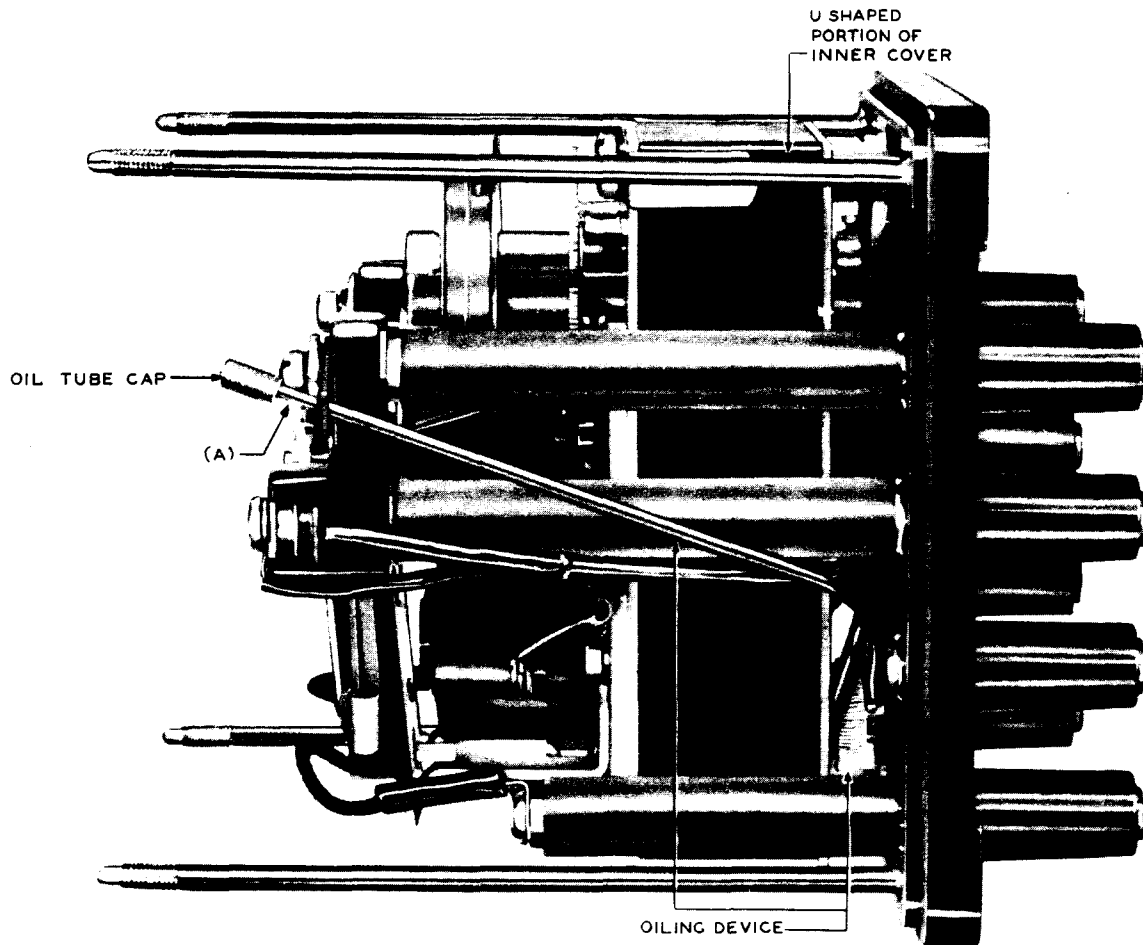

Fig. 4 - KS-15513 Time-delay Relay Equipped With an Oiling Device
- (c) Fig. 4(A) — The motor bearing of the relay equipped with an oiling device shall be adequately lubricated with the Westinghouse Electric Corporation No. S-1723631 oil. When lubrication is necessary, the oil shall be applied to the oiling device.
19. To add Fig. 4.